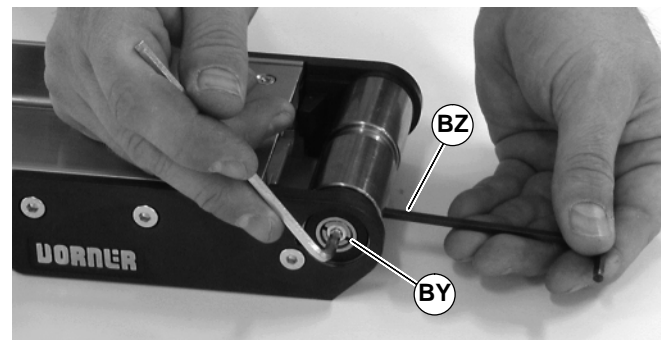

Figure 55
3. On both sides of pulley, use a 4mm hex-key wrench to tighten pulley taper screw (BY of Figure 55) to 4 Nm. Steady pulley with second hex-key wrench (BZ) inserted into pulley hole.